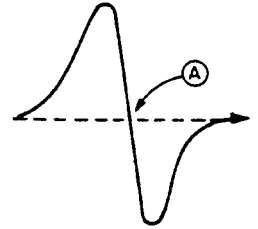

Fig. 4-8 S-Curve of the Focus
- (b) At this time, the output voltage ① changes from negative to positive.
- (c) Furthermore, the S-curve of the focus at this time changes according to Fig. 4-8 below.
The Focus Servo is applied with Point (A) of Fig. 4-8 as its operating point. The Focus Search operation is performed and the Focus Servo SW is set to ON while Point (A) of Fig. 4-8 is being crossed. In order to also prevent malfunction, the logical product of the operation and the Focus OK signal is obtained.